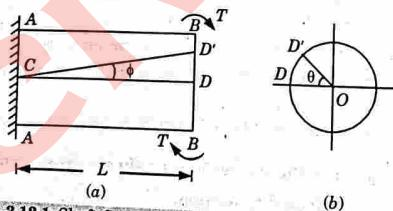

Fig. 3.12.1. Shaft fixed at end AA subjected to torque T at BB.
- When a circular shaft is subjected to torsion, shear stresses are set up in the material of the shaft. To determine the magnitude of shear stress at any point on the shaft, consider a shaft fixed at one end AA and free at the end BB as shown in Fig. 3.12.1.
6. Now from Fig. 3.12.1(b).